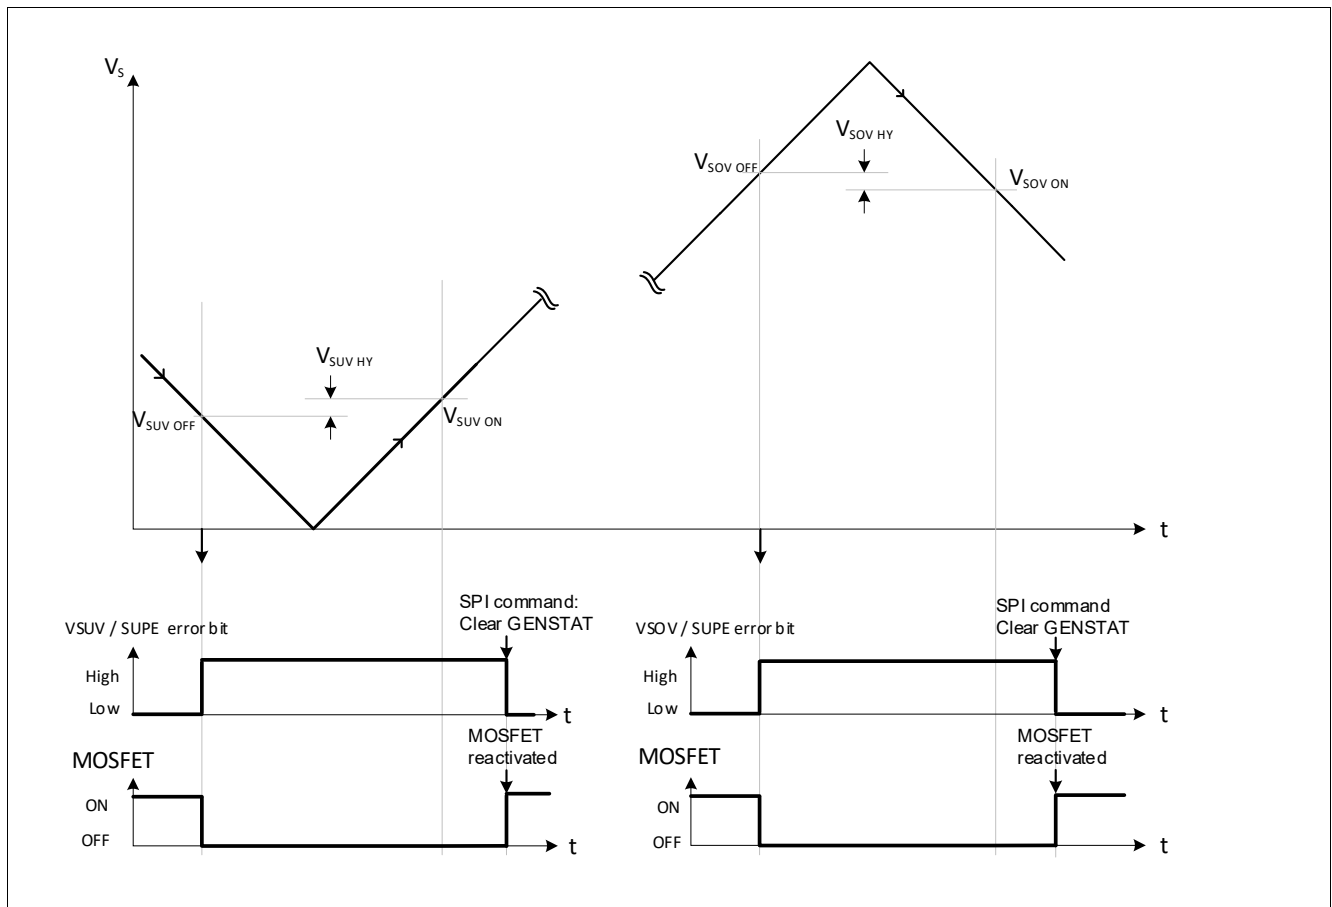

Figure 37 Output behavior during Over- and Undervoltage  $V_s$  condition
- $V_S > V_{SUV\ ON}$  (See Figure 37).
- $V_S < V_{SOV\ ON}$  (See Figure 37).